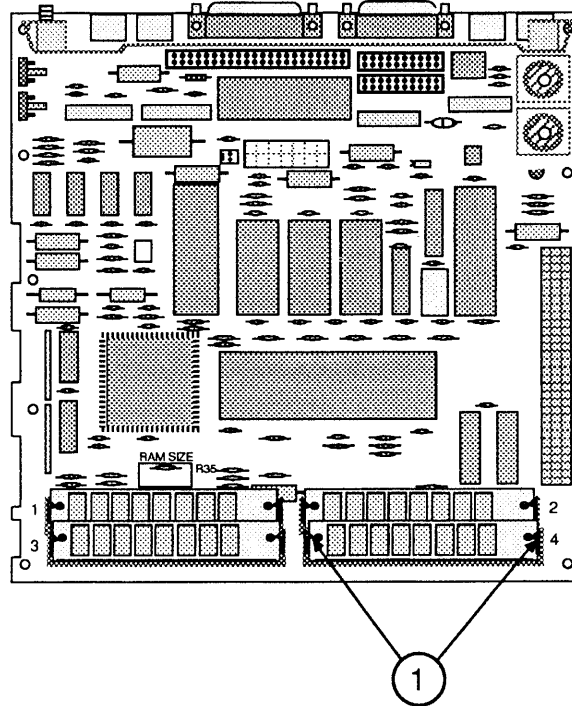

FIGURE 24
1. With the contacts (Figure 24, #1) on the SIMM pointing down, insert the module into the connector at an angle (bottom forward).